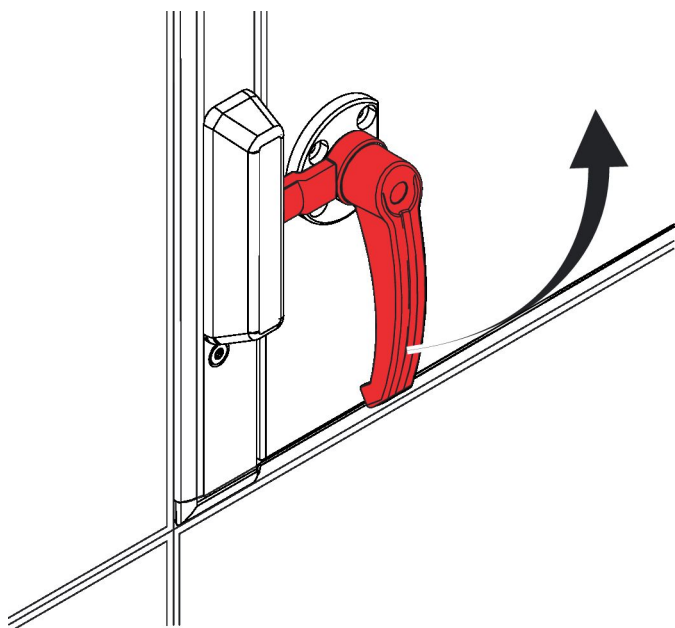

Fig. 17: Opening a door lock
1. ▶ Turn the door handle anti-clockwise by 90° (Fig. 17).